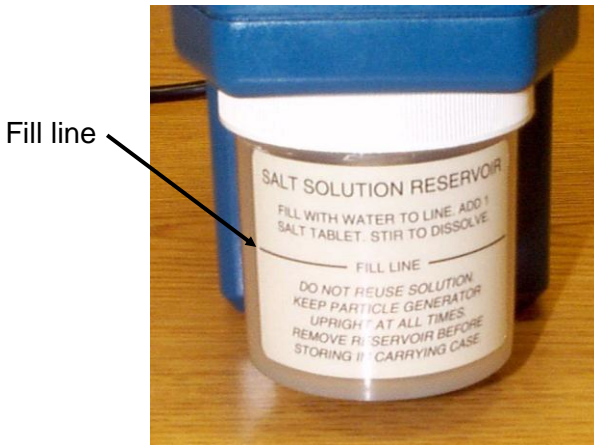

Figure 2-1
4. Once the solution is mixed, remove the temporary cover and screw the reservoir onto the particle generator. See Figure 2-1.